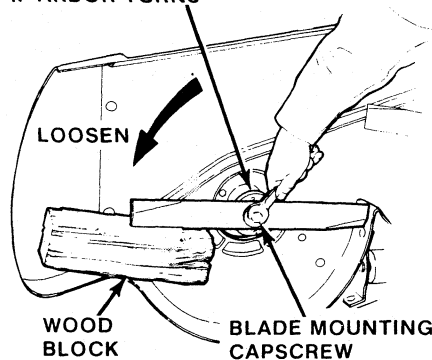

Figure 16. Removing Blade
2. Position the mower as in figure 16.
4. To remove the blade for sharpening, use a wooden block to hold blade while removing the capscREW (figure 16). Position the wrench as shown so that your hand will not fall onto the blade cutting edge if wrench slippage occurs.